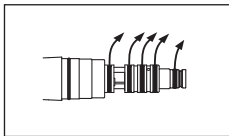

Fig. 43
- ➋ Gently remove each O-ring by hand (Fig. 43).